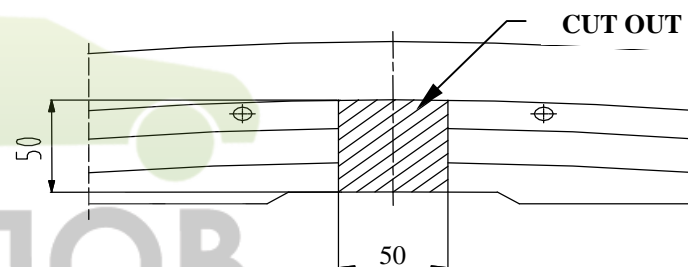

Fig.2.
3. In maked holes put sleeves $\varnothing 17$ mm (pos. 8), length = 73 mm.
4. To rear side put base bar of towbar (pos. 1) in that way, so holes pos. A agree to holes for unscrewed reinforcement and screw using bolts M8x35mm (loosely) – pos. 13.
5. Elements (pos. 4 and 5) put to chassis members and rear side and screw using bolts M10x110 mm (pos. 11) and M10x35mm (pos. 12).
6. Assemble masking cover and bumper after cut his fragment 50x50mm – see fig. 2.